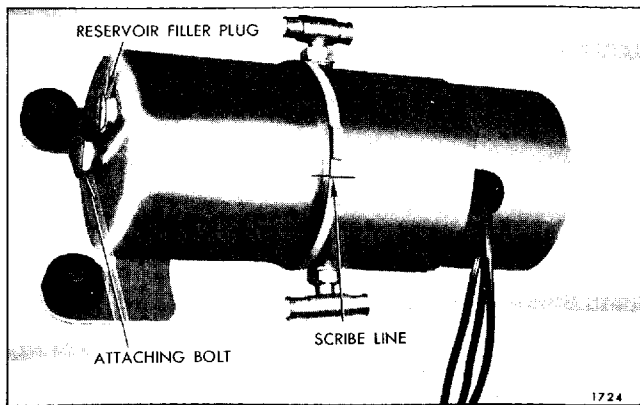

Fig. 6-61—Hydro-Lectric Motor And Pump Assembly
2. Scribe a line across pump end plate and reservoir tube to insure a correct assembly of parts. See Fig. 6-61.